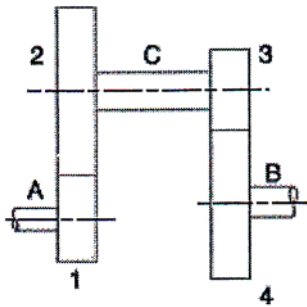

Figure 1
b) In a reverted gear train (Fig. 1) two shafts A and B are in same straight line and are geared together with intermediate shaft C. The gears connecting shaft A and C have a module of 2mm and those connecting shaft C and B have a module of 4.5 mm. The speed of shaft A is to be about but greater than 12 times the speed of shaft B, and the ratio at each reduction is same. Find suitable number of teeth for gears. The number of teeth of each gear is to be a minimum but not less than 16. Also find the exact velocity ratio and the distance of shaft C from A and B.